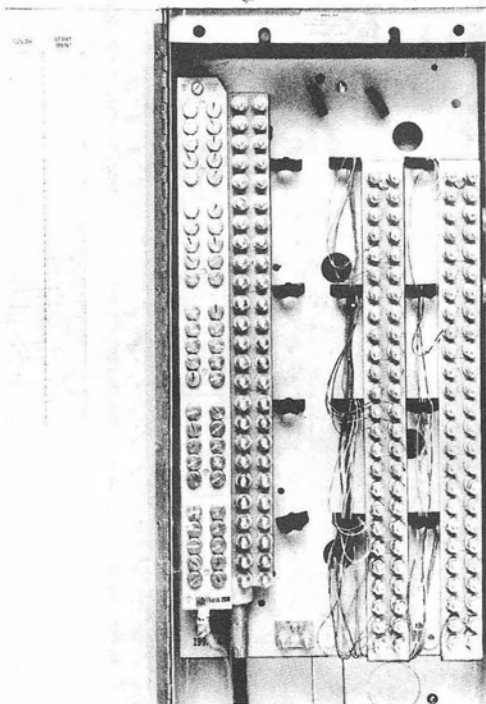

Fig. 13—Terminated Service Wires
7.02 Route the station wire up the left-hand side of the connecting block to the assigned binding post as shown in Fig. 13 and terminate as follows: